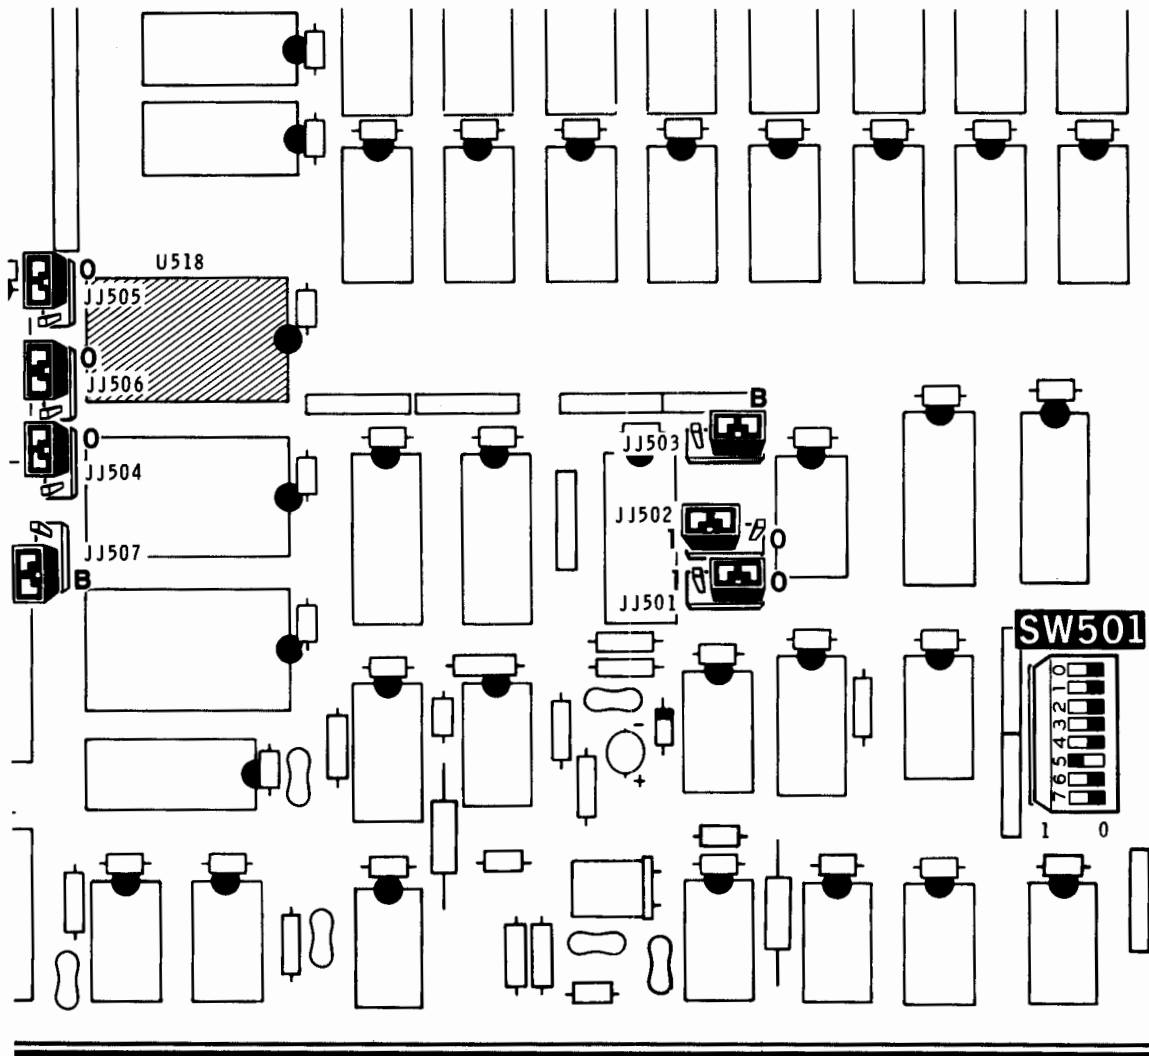

Figure 3-2
The functions that switch SW501 selects are determined by integrated circuit U518. See Figure 3-2.
SW501 switch sections as directed in the next two steps. Then proceed directly to "Programming Jumpers." See Figure 3-2.
- When you boot up from a 5-1/4" hard-sectored floppy disk to enable your 8" floppy disk, set SW501 switch sections as directed in the next two steps. Then proceed directly to "Programming Jumpers." See Figure 3-2.